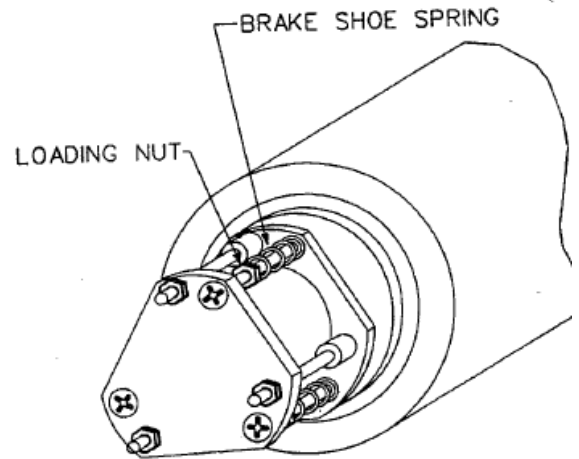

Figure 2-1
1. Remove the two (2) screws that hold the rear motor cover.
3. Locate the three (3) brake shoe springs loading nuts. See Figure 2-1.